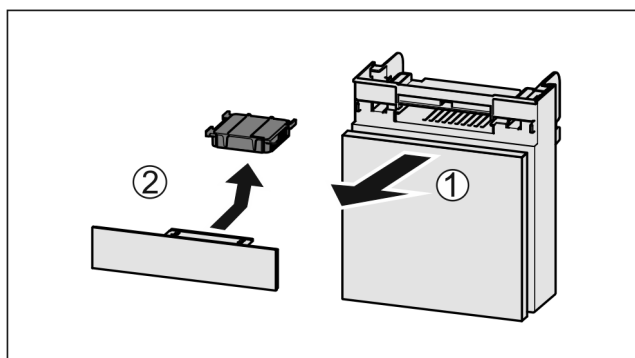

Fig. 105
- Pull out the compartment Fig. 105 (1).
- Remove the carbon filter Fig. 105 (2).